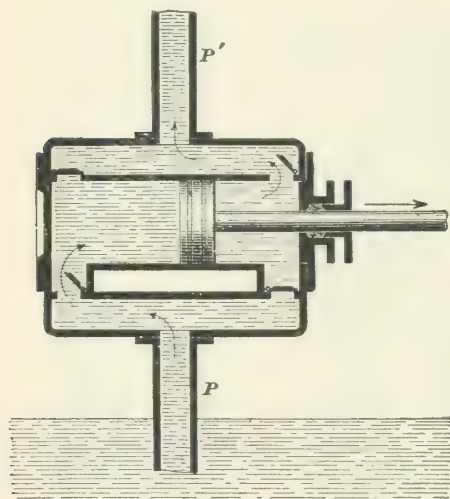

FIG. 29.
76. A **double-acting force pump** of the piston pattern is shown in Fig. 29. Such a pump has two sets of suction